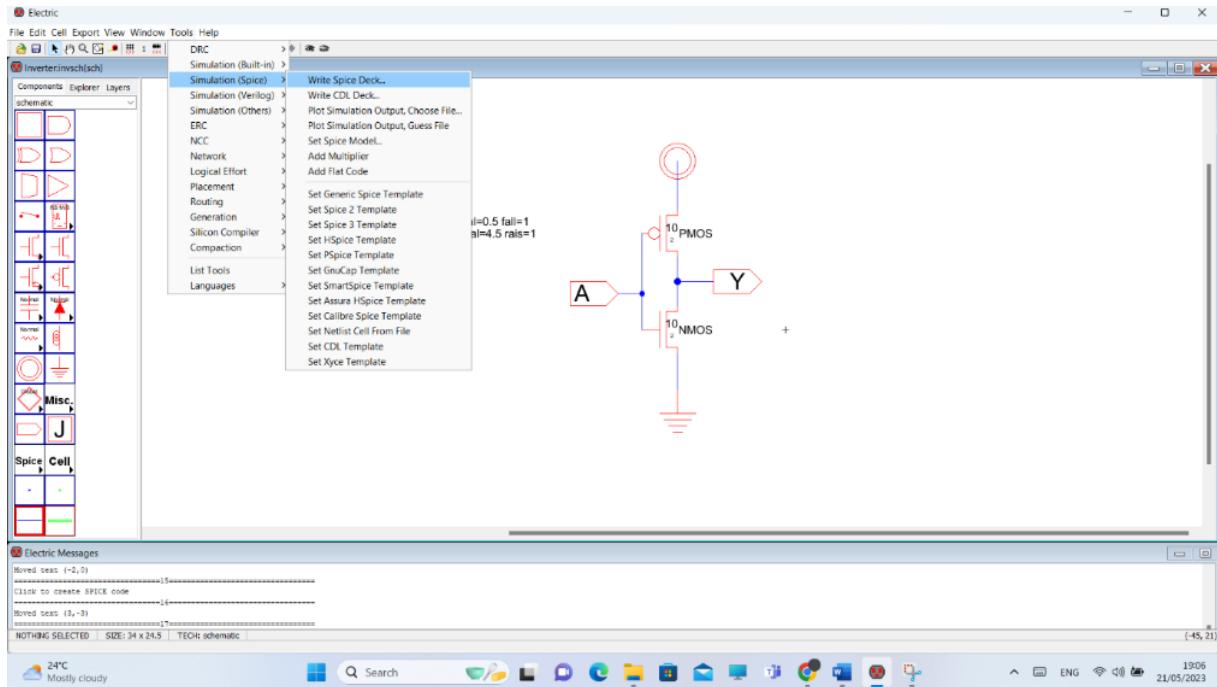

Figure 1.21 Simulation Code
15. Now, to simulate your code, click on Tools >> Simulation (Spice) >> Write Spice Deck. (See Figure 1.21).